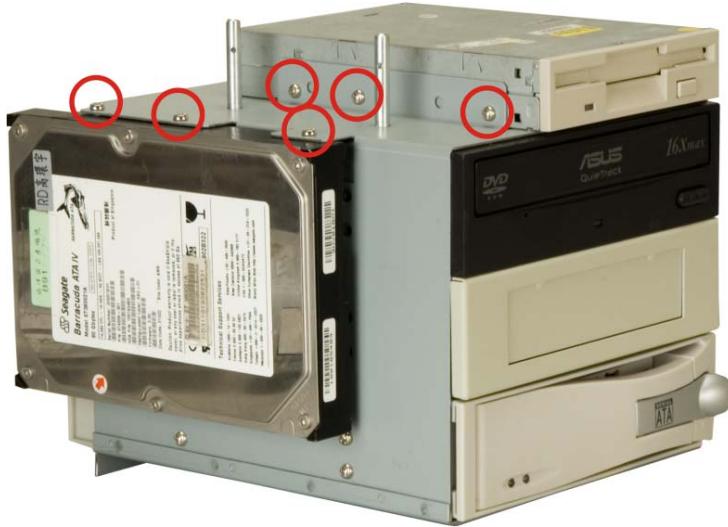

Figure 4-10: 3.5" Disk Drive Retention Screws
Step 5: Insert the appropriate number of retention screws into each side of the 3.5" disk drive through the 3.5" drive bracket (**Figure 4-10**).